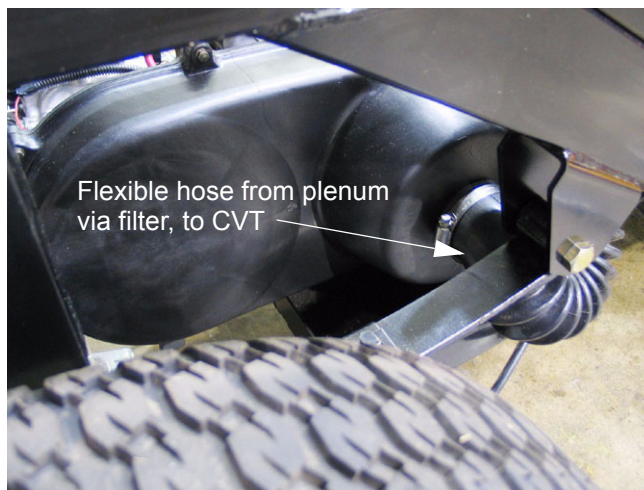

Figure 5.11
- 5.11. Loosen the hose clamp that secures the flexible hose from the air filter to the CVT cover, and disconnect the hose from the cover. See Figure 5.11.